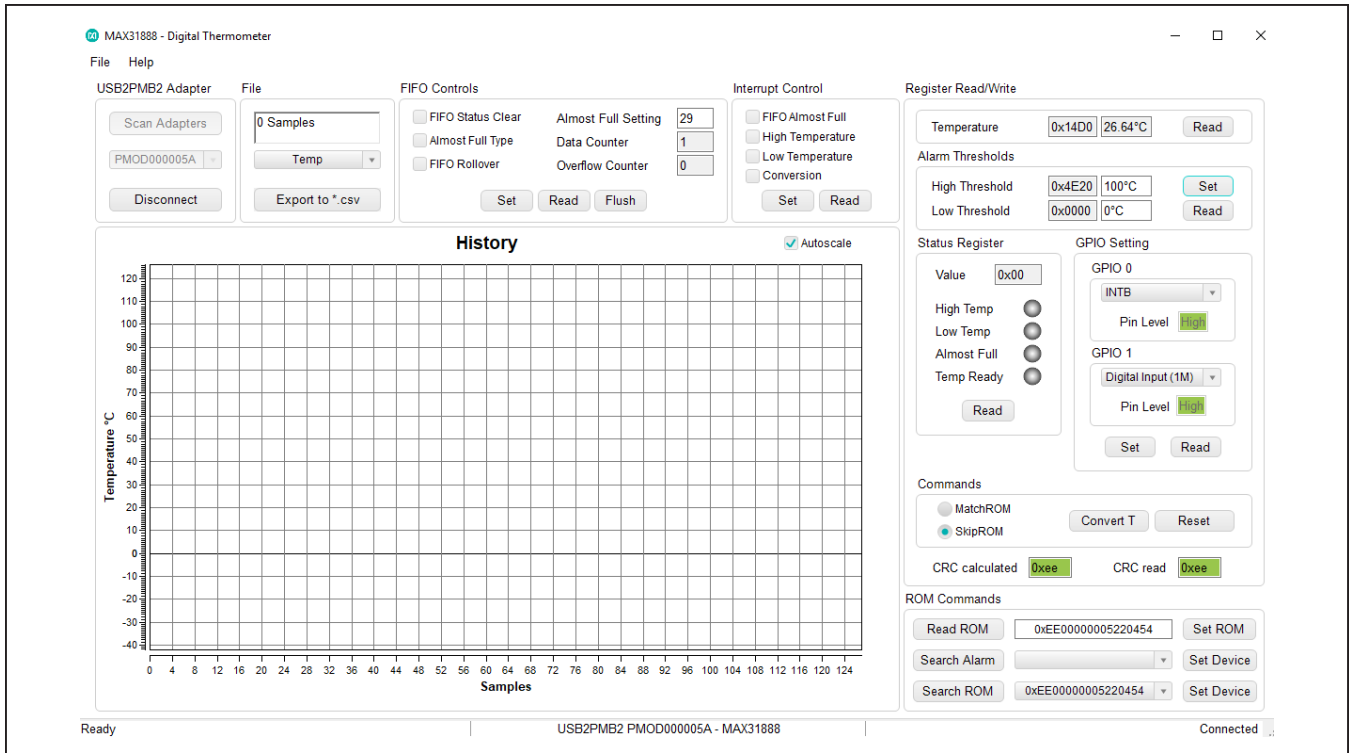

Figure 1. MAX31888 Main Window
- 5) Open the EV kit GUI, MAX31888EvaluationKitTool.exe (Figure 1).